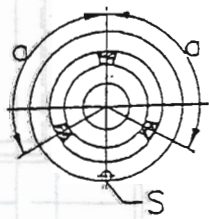

Fig 13-5
4. After this take the other two balancing pieces 'K' and attach to any position of equivalent distance 'a' (see figure 13-5).